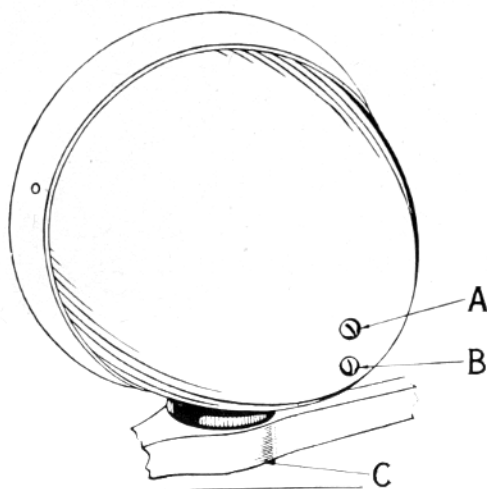
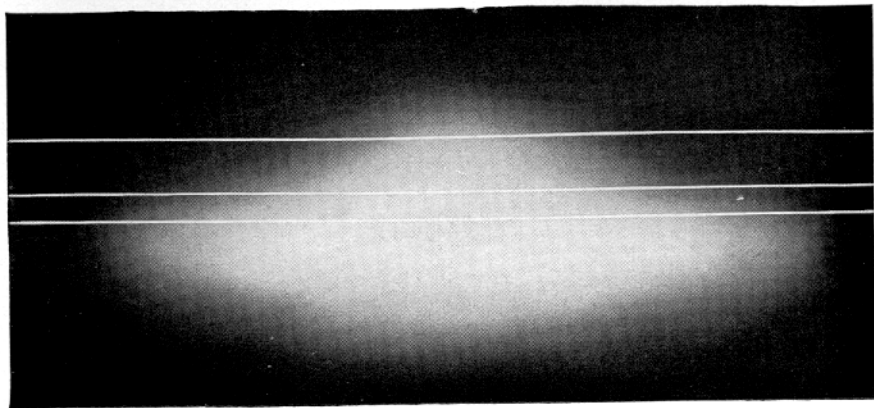
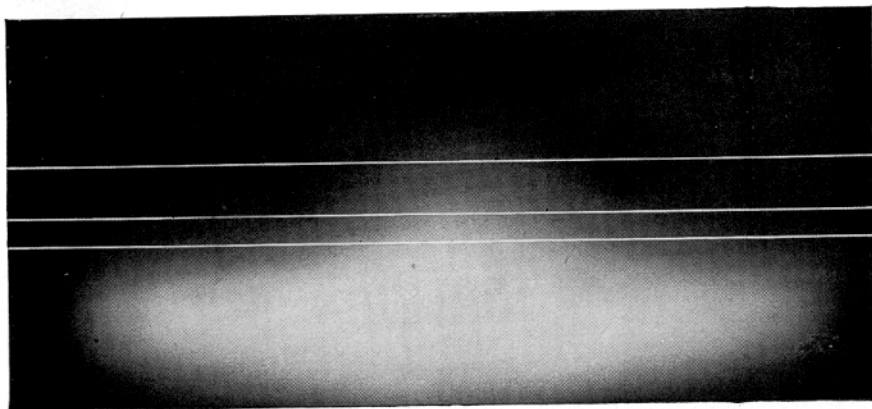

Fig. 1
Fig. 2. Single Upper Beam—Lens in Place
Fig. 3. Single Lower Beam—Lens in Place
**DESCRIPTION**—The Parabeam Headlamp is a complete lighting unit of the type which uses a double filament bulb of 21 c. p. for each filament. The two filaments are spaced  $\frac{1}{8}$  inch apart, above and below the central axis of the bulb. Lighting the lower filament gives the upper or "driving" beam. (Fig. 2.) The upper filament produces the lower or "passing" beam (Fig. 3) for city driving or whenever the upper beam might cause annoyance to others. The lower beam is tilted downward about  $2\frac{1}{2}$  degrees from the upper position, or about 1 foot on a wall 25 feet from the lamp. The two lower white lines in Fig. 3 indicate the maximum and minimum tilt for the top of lower beam.
The headlamp consists of a carefully made outer housing and door, a special variable axis parabolic reflector to tilt and spread the light, and a ribbed or fluted lens designed solely for use with this reflector. In addition to the upper screw "A" (Fig. 1) at the rear for focusing the bulb, an adjustment is provided for raising or lowering the bulb in the reflector to secure best results from different bulbs. This is done by the lower screw "B" (Fig. 1) at back of lamp, which turns a small eccentric, tilting the socket and bulb up or down in the slotted guide tube attached to the reflector.
*Third*—With one lamp covered to hide its light, set the lighting control switch at the upper or “driving” beam position and remove the door from the uncovered lamp. Turn the lower of the two screws “B” (Fig. 1) in the back of headlamp (vertical adjustment screw) to the right until the top of the light beam is as low as possible, then turn it to the left one-quarter turn or slightly more. The total adjustment is covered by a half turn of the screw. Turning screw to right raises the bulb in reflector and tends to lower the top of the “driving” beam, producing a flatter cut-off and less tilt to the lower beam. Therefore, set the bulb so that the beam shown in Fig. 5 is obtained by proceeding as follows:
*Fourth*—Turn the large focus screw “A” (Fig. 1) in center of lamp slowly to left or right until a bright triangular spot like Fig. 5 is obtained. Try removing the bulb, turning it half way around to reverse the position of filaments, and replacing in socket. This insures the best beam from the bare reflector, since the bulb filaments sometimes vary in length and position.
*Fifth*—Aim or point the lamp by loosening the nut at "C" (Fig. 1) on lower side of lamp mounting. The center of the beam should strike the vertical line on wall in front of this lamp, and the top of beam should touch line "A" when car is fully loaded. If car is empty, allow at least 4 inches between line "A" and top of light beam. Under no circumstances should any part of the bright beam rise above line "A."
*Sixth*—Make sure that the lamp is firmly fastened in position when it is aimed correctly. Then repeat the foregoing operations with the other lamp. The two upper beams should be similar in shape and should strike the wall at the same height from the ground. Now turn the control switch to the lower or "passing" beam position and note whether the cut-off or top of the bright area on wall has dropped about 1 foot. If the amount of drop is considerably less than 1 foot, turn lower screw "B" (Fig. 1) (vertical adjustment) to left very slightly and try both upper and lower beams on the wall. When the upper beam from one lamp looks like Fig. 2 it is correctly adjusted and the lower beam will have the proper amount of drop or tilt.